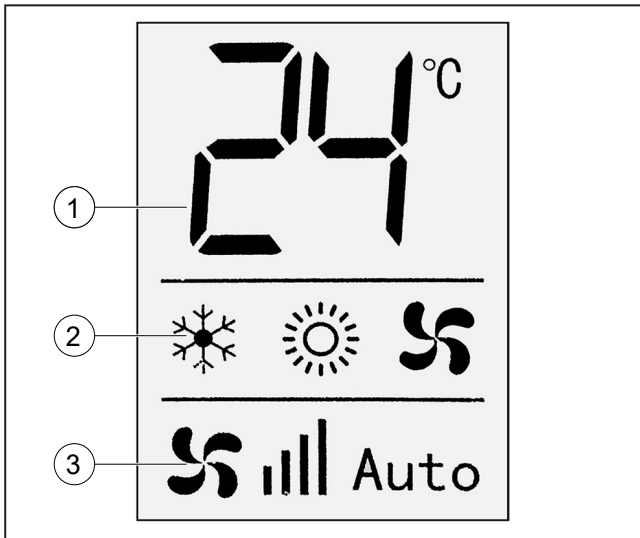

Fig. 5
When the air conditioner is powered from the mains but is off, the display shows only the room temperature in the first field (“Fig. 5” ref. 1).
When the air conditioner is on, in the centre field (“Fig. 5” ref. 2) the icons that describe the operating mode are highlighted:
In the third field (“Fig. 5” ref. 3) the fan operating mode is shown.
The two figures in the first field (“Fig. 5” ref. 1) normally indicate the room temperature detected by the air conditioner inside the camper.